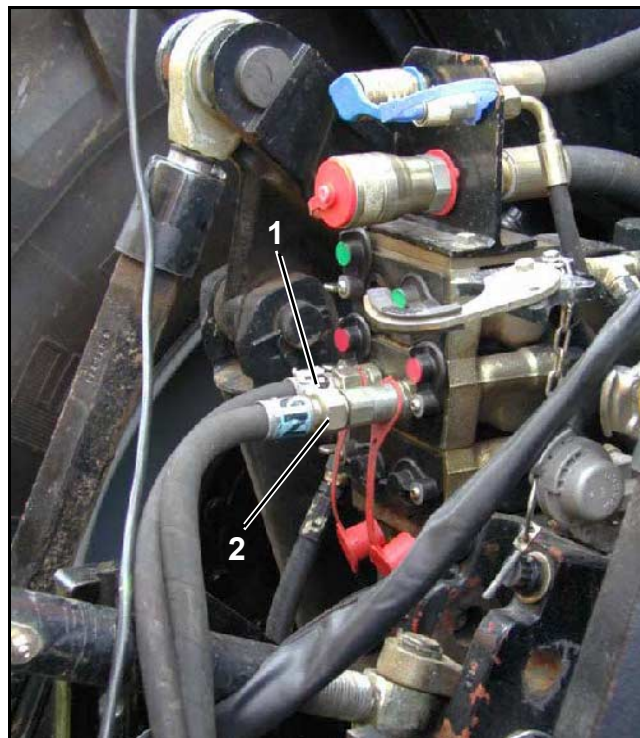

Fig. 78
- ≠ 1 single acting control valve for connecting to the pressure hose (Fig. 78/1).
- ≠ 1 pressure-free return flow for connecting to the return flow hose (Fig. 78/2).